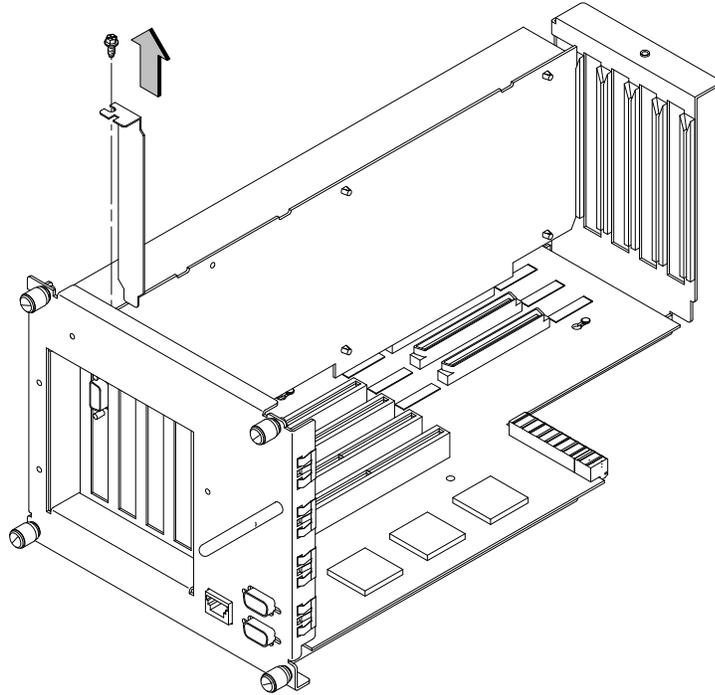

Figure B-36. Removing the EISA Slot Cover
4. Unscrew one screw at the top of the slot cover and pull the cover straight up to remove it. See Figure B-36.